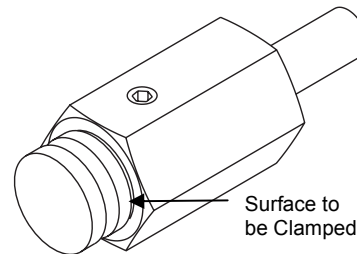
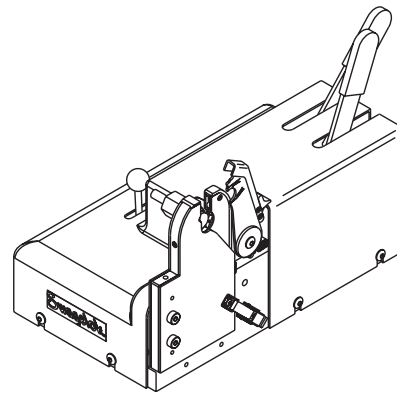

Figure 23 *Surface to be Clamped*
Figure 24 *Centering Gauge Clamped into Position*
2. Clamp the centering gauge around the circular surface shown in Figure 23, using the left movable clamp. See Figure 24.